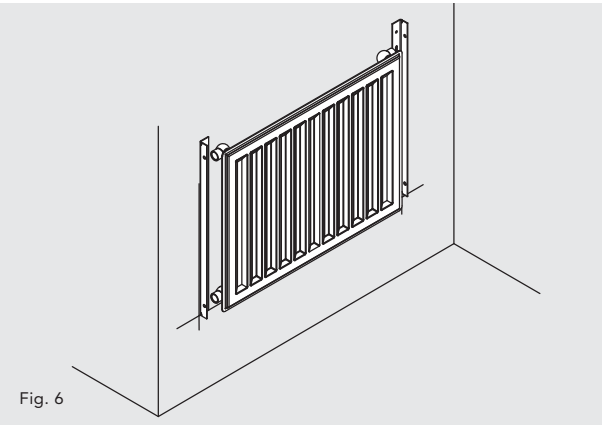

Fig. 6
- Carry out the water connections as for standard radiators, ensuring that the pipework and valving will not effect the fitting of the enclosure (see fig. 6).